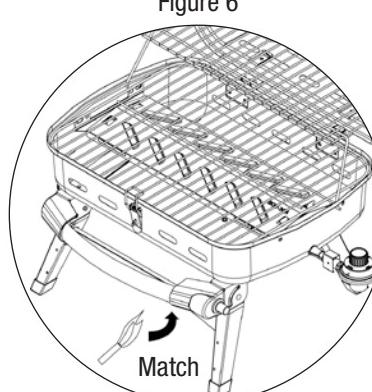

Figure 6
8. If igniter does not light burner, use a long lit match to light burner manually. Access the burner through the hole in bottom bowl as indicated. (Figure 6)